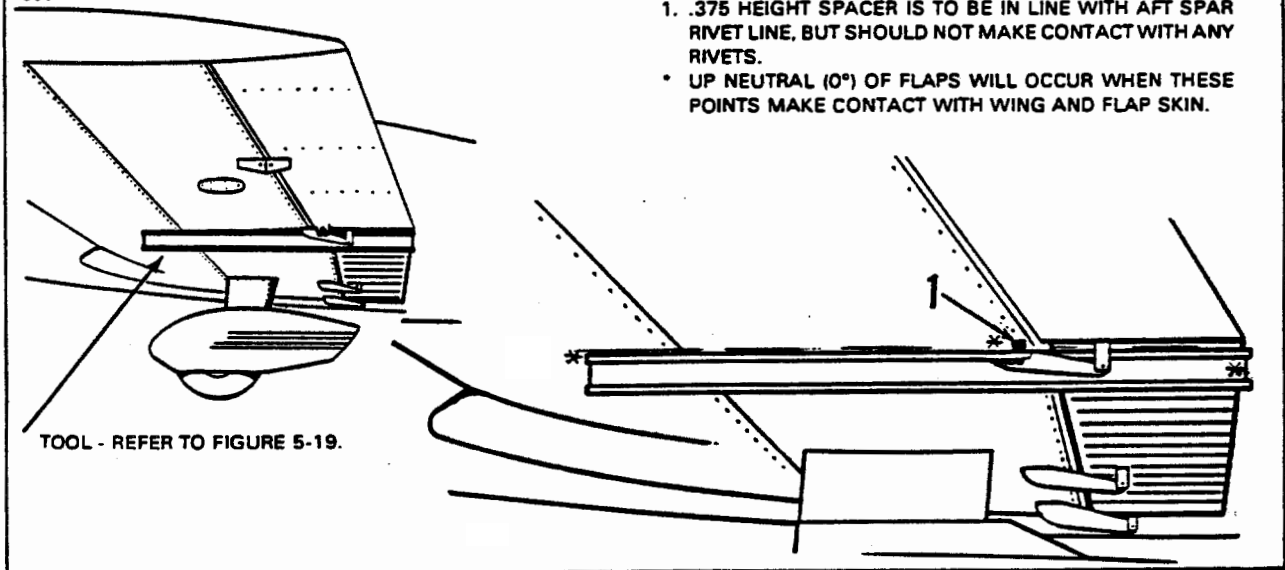

Figure 5-16. Flap Rigging Tool
- g. To check up neutral position of the flaps, place a flap rigging tool as shown in Figure 5-16 against the underside of the wing and flap as close as possible to the outboard end of the flap without contacting any rivets. The tool must be positioned parallel with the wing ribs with the aft end of the tool even with the trailing edge of the flap. (This tool may be fabricated from dimensions given in Figure 5-19.)